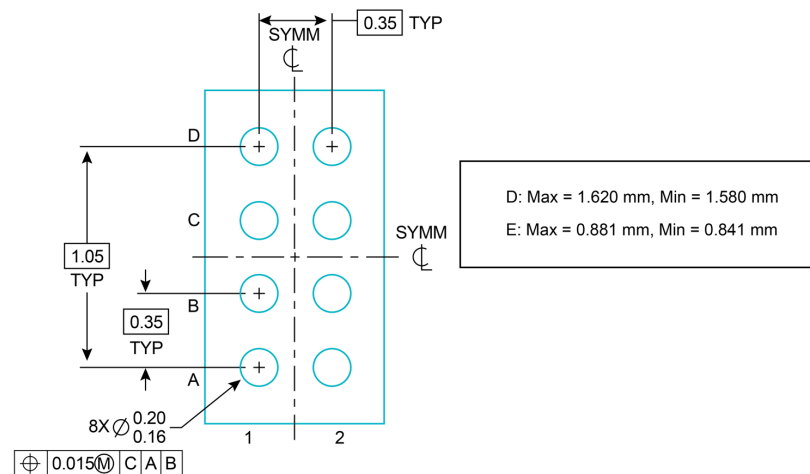

Figure 2. MSPM0C1104 eight-ball WCSP package drawing (nominally 1.50 x 0.86mm with a thickness of 0.35mm)
- **A wafer chip-scale package (WCSP).** These packages offer the smallest form factor compared to other package types. An array of solder balls connects directly to the silicon, resulting in a package size equal to the silicon die (see **Figure 2**). Fitting eight solder balls in 1.38mm² enables the integration of more features per square millimeter. The MSPM0C1104 is also available in a WCSP that's 38% smaller than competing devices, making it the world's smallest MCU.